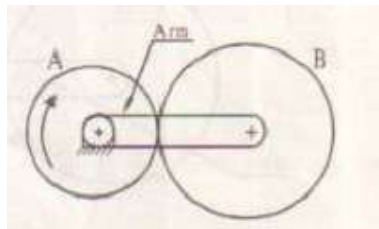

Fig. 4.1
1. Two spur gears A & B of an Epicyclic gear train is shown in the figure 4.1 have 24 and 30 teeth respectively. The arm rotates at 100 rpm clockwise. Find the speed of gear B on its own axis when gear A is fixed. If instead of being fixed the wheel A rotates at 200 rpm in ccw direction, what will be the speed of gear B. (solve it by algebraic method)